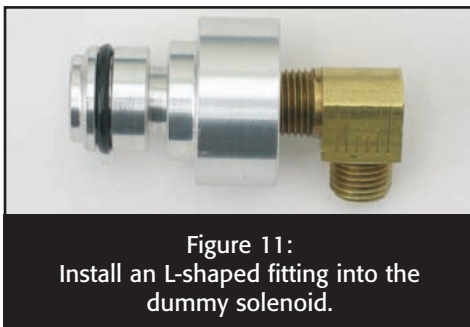

Figure 11:
2) Install an L-shaped pipe fitting into the dummy solenoid (figure 11). The fitting we used was 1/8" pipe on one end and 3/16 compression fitting on the other. Once the fitting is installed into the dummy solenoid, install the assembly in the valve body. You must use an O-ring in this area.